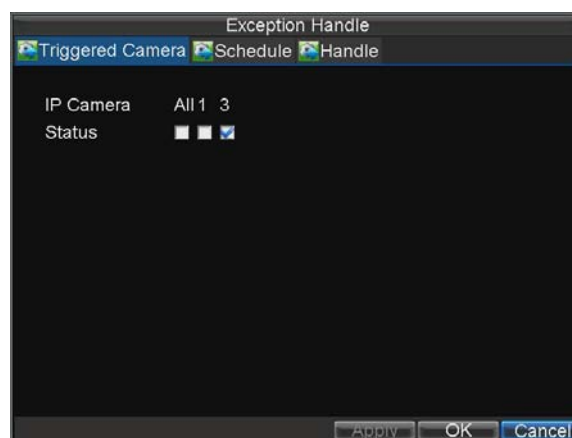

Figure5. Exception Handle Setting
7. Click the *Handle* button to enter the Exception Handle menu, shown in Figure 5. Select the Triggered Camera tab.